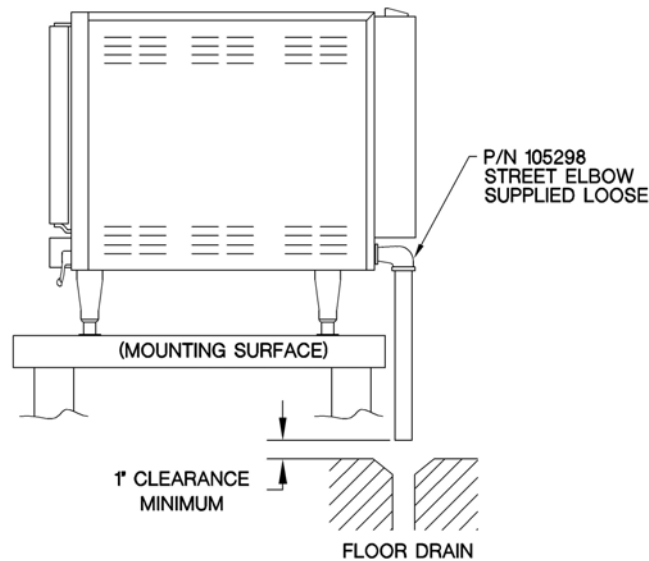

Figure 3-8
3. Free air venting requires a minimum 1” clearance between the end of the drain line and the top of the floor drain. See Figure 3-8.